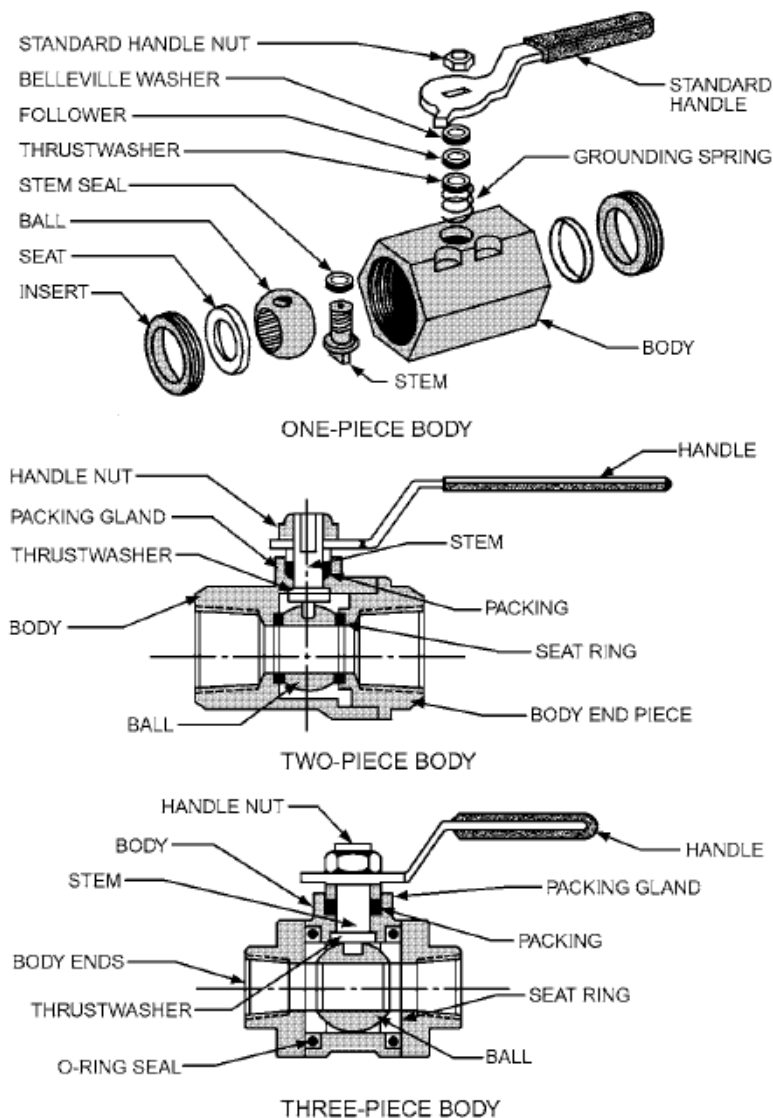

Fig. 6 Ball Valve
- Ball valves may be of one-, two-, or three-piece body design (Figure 6).